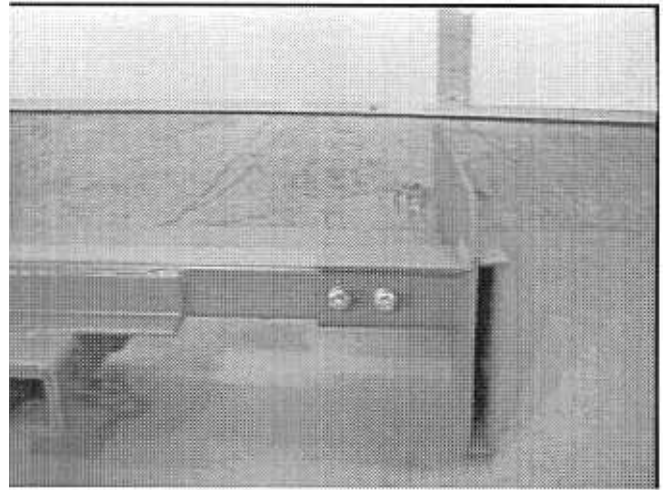

Figure 8
- Insert receiver hitch into subframe mounts to furthest (narrow) position and align holes. See Figure 8.